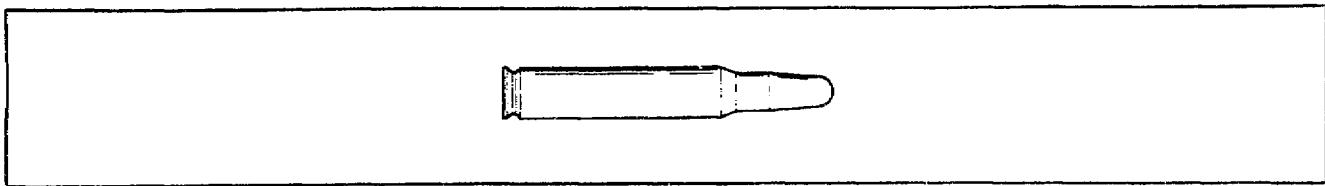

Figure 7. Practice Cartridge.
*Practice.* The 5.56mm practice cartridge (Figure 7) is made of plastic and has a blue bullet tip. It is used with the M16A1 rifle with a practice bolt for training in areas where range size precludes the use of full-range standard service ammunition.